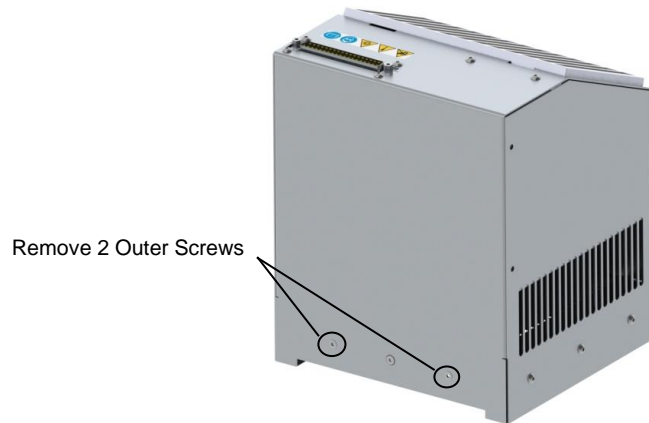

Figure 2. Remove 2 Outer Screws from Emitter
3. Using a 2-mm hex key, remove the 2 outer screws from the back of the emitter. (Figure 2)